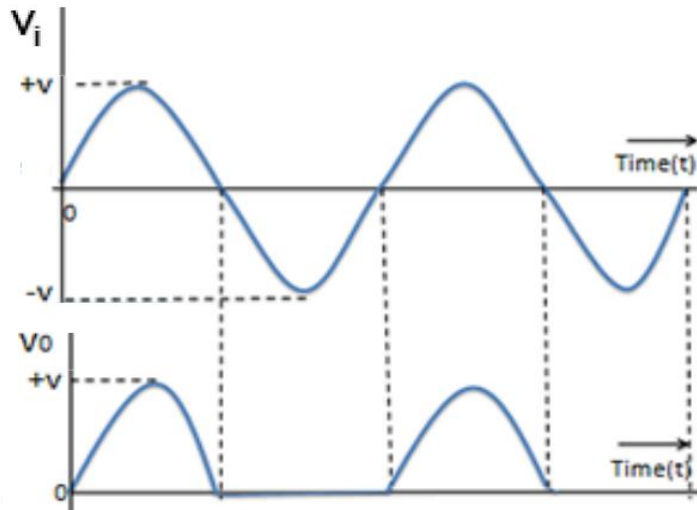

Fig.2.15 Input and Output waveforms
- The input waveform and the corresponding output voltage waveform is shown in the Fig. 2.15.